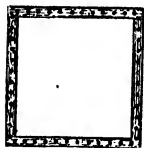
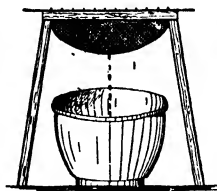

Fig. 336.—Frame for Oil Filter.
Fig. 337.—Simple Oil Filter.
**Recovering Engine Oil.**—Engine oil can be purified by filtration so that it may be used over again. For this purpose, first filter it from the black sediment by means of a cotton cloth, and then finish by passing it through filter-paper. Construct a strong frame of wood about 1 ft. square (as Fig. 336), and along each side of the square drive in about 1 dozen tacks long enough to pass through the wood so that their points appear. Now get a square of cotton cloth and fix it upon the points of the tacks, and then place the frame over a basin. Pour the dirty oil on to the cloth, and in a short time the clear oil will begin to run through (Fig. 337). This filter may be kept going continuously until the oil ceases to drip, after which the cloth must be thrown away and a clean one put on. If the oil does not appear quite bright, take a square of blotting-paper, double it twice, and cut out a quarter circle